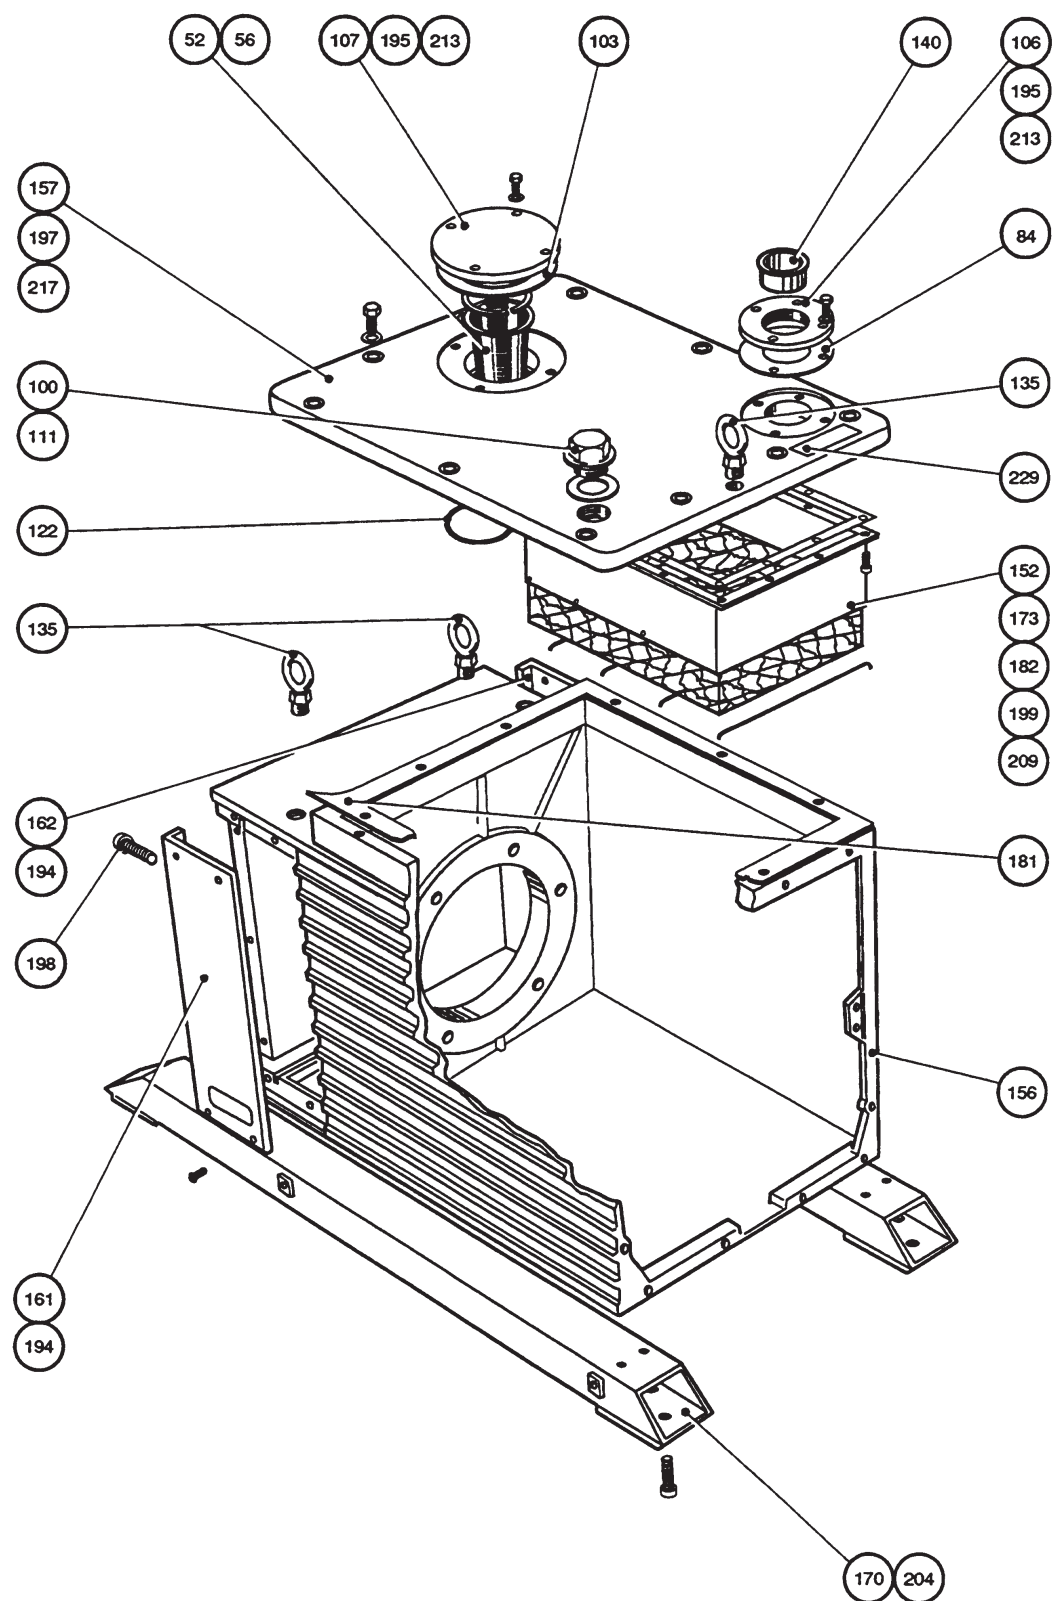

Figure 3 - (A) Main oil box sub-assembly
The exploded views of the E1 /E2M175S, E1 /E2M275S and E2M175AE /275AE pumps are shown in Figures 3 to 13, the component parts referenced on these figures are listed in Tables 3 to 18. When you read Table 3 take note of the following:
The 'Item' number is the number of the component part on Figure 3. The Item Numbers used on Figure 3 and in Table 3 are the same numbers as used in the E1 /E2M175S, E1 /E2M275S and E2M175AE /275AE pumps General Assembly (GA) drawings.